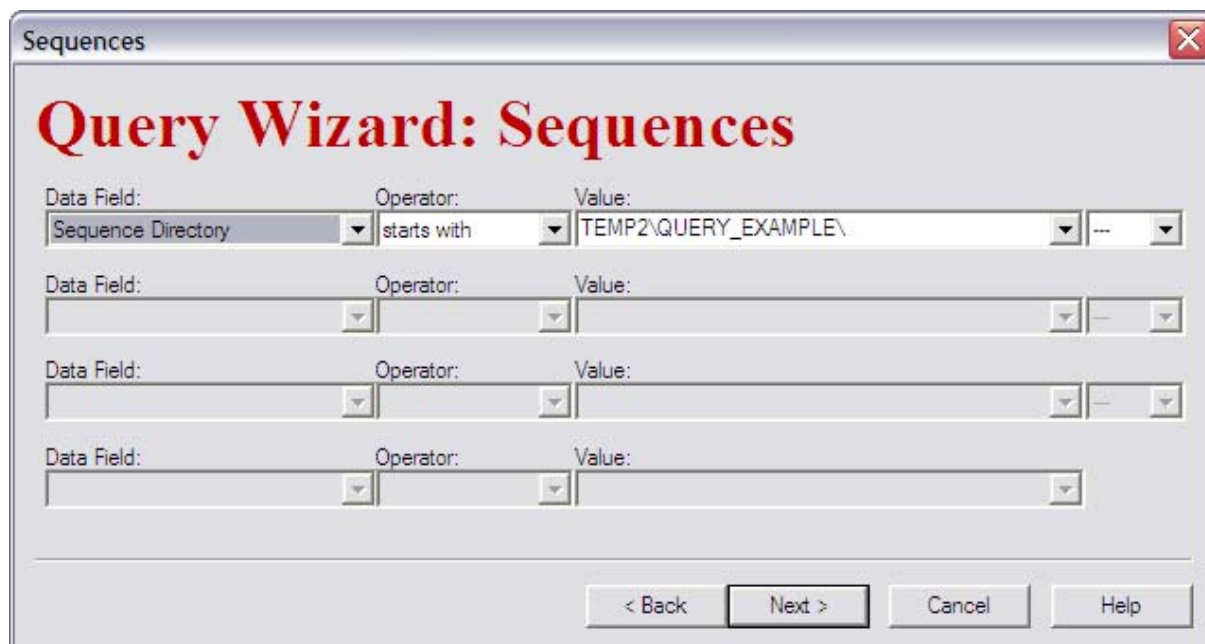

FIGURE 3-26: Sequence criteria settings in the **Query Wizard**
2. The search results can be limited to a directory containing the sequence. Select the directory containing the sequence(s) used for Automated Method Scouting in FIGURE 3-26. Other query criteria can also be used for the sequences.